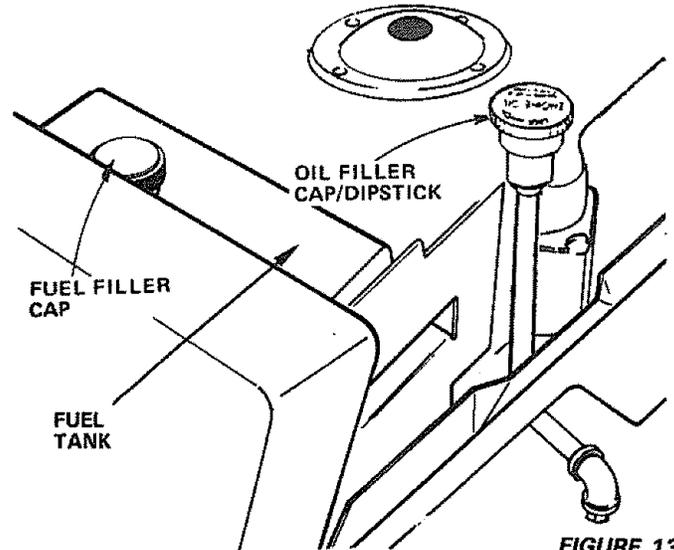

FIGURE 13
- This engine has been shipped filled with summer weight oil (For cold weather operation see chart page 16). Check engine oil level with tractor on level ground. Remove and wipe dipstick (Fig. 13) clean, screw it in tight for a few seconds, remove and read oil level. If necessary, add oil until "FULL" mark is reached.
- Fill fuel tank (Fig. 13). Use fresh, clean, regular unleaded automotive gasoline. (Use of leaded gasoline will increase carbon and lead oxide deposits and reduce valve life). Capacity is 5 quarts.